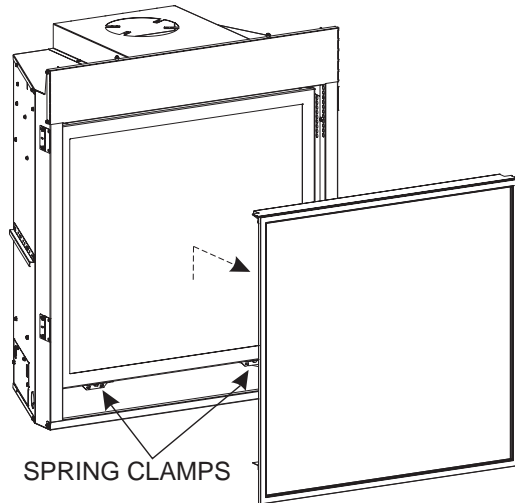

Figure 79
- Check all latches or other door retention components for proper operation, tension, and relief mechanisms are free from obstructions. **See Figure 79.**
- Check the barrier screen for fit and structural integrity. **See Figure 79.**